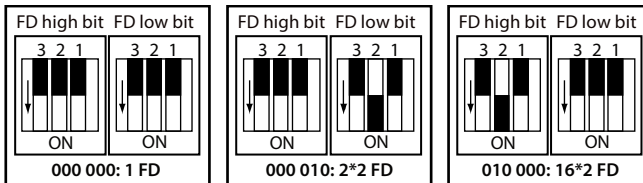

Figure 4-11 Encoder interface board FD description
- Convert the 6-digit binary number into decimal number. Multiple the decimal number by 2, the result is FD coefficient, as shown in Figure 4-11.